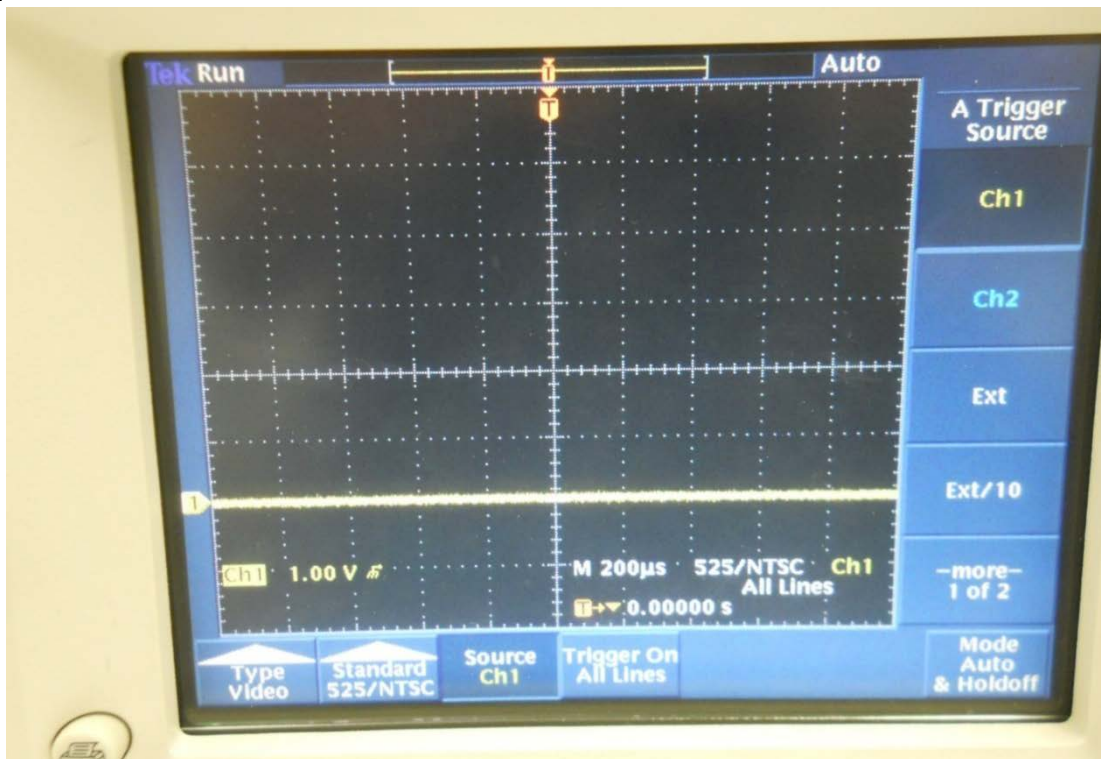

Figure 6 – Horizontal Sweep
- 1.4. Press the MENU button in the Trigger column. Make sure the Trigger Source is Ch 1. See figure 6.
- 1.5. Press the CH1 button and the MENU button below the Vertical scale knob. Select GND using the button next to the on-screen menu and adjust the trace position to approximately 2 major divisions from the bottom of the screen on a major grid line. See figure 6.